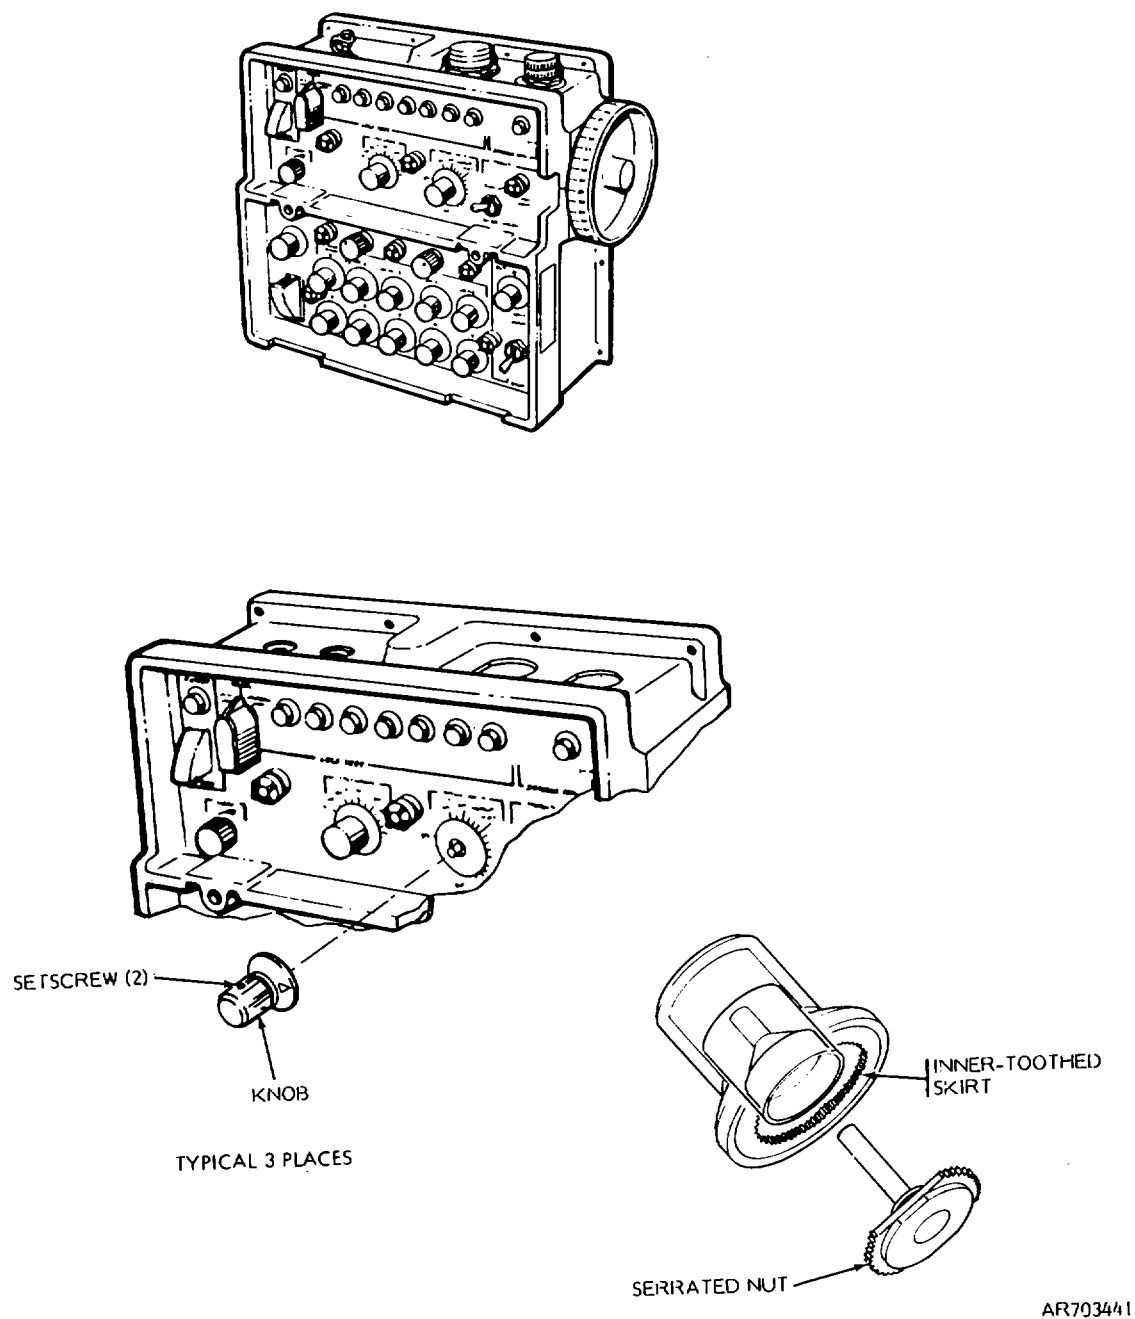

Figure 3-10. AIR TEMP, ALTITUDE, or CROSSWIND control knobs removal and installation.
a. *Removal (fig 3-10). Loosen two setscrews and remove knob.*
b. *Installation of AIR TEMP Control Knob (fig 3-10).*
(2) Set POWER switch on FTS to OFF.
(3) Set UNIT SELECT switch on FTS to GCU.
(4) Set POTENTIOMETER TEST switch on FTS to AIR TEMP.
(5) Set POWER switch on GCU to ON.
(6) Adjust AIR TEMP control on GCU so that FTS CONTINUITY TEST meter indicates +20.
(7) Install knob on control so that index mark on skirt points to +100. Push knob onto shaft until inner-toothed skirt is fully engaged with teeth of serrated nut; tighten two setscrews to secure knob between .006 and .045 inch from GCU front surface. Exercise care not to disturb settings of control.
(8) Adjust AIR TEMP control on GCU until index pointer on knob is at -40. FTS CONTINUITY TEST meter indicates  $+80 \pm 2.5$ .
(9) Adjust AIR TEMP control to S and remove GCU from test bench setup.
c. *Installation of ALTITUDE Control Knob (fig 3-10).*
(4) Set POTENTIOMETER TEST switch on FTS to ALT.
(6) Adjust ALTITUDE control on GCU so that FTS CONTINUITY TEST meter indicates +60.
(7) Install knob on control so that index mark on skirt points to 10. Push knob onto shaft until inner-toothed skirt is fully engaged with teeth of serrated nut; tighten two setscrews to secure knob between .006 and .045 inch from surface. Exercise care not to disturb setting of control.
(8) Adjust ALTITUDE control on GCU until index pointer on knob is at 25. FTS CONTINUITY TEST meter indicates  $+20 \pm 2.5$ .
(9) Adjust ALTITUDE control to 0 and remove GCU from test bench setup.
d. *Installation of CROSSWIND Control Knob (fig 3-10).*